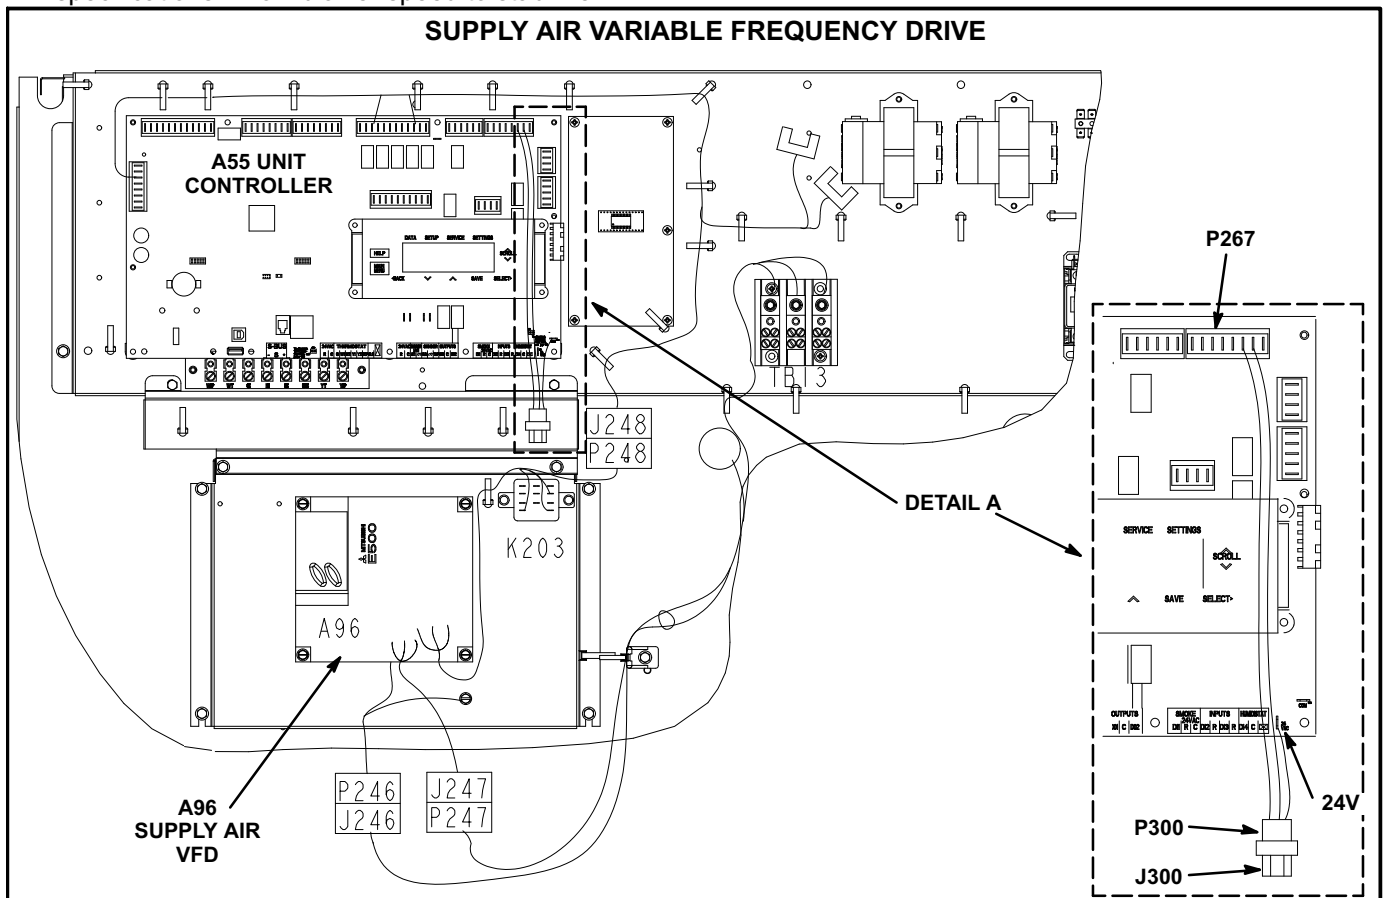

FIGURE 30
The supply air VFD (A96) is located near the compressors. See figure 30.
- 4- Locate the A55 Unit Controller. Refer to figure 30.